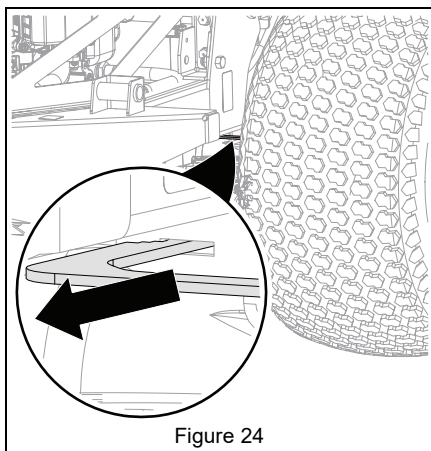

Figure 24
2. Pull both transaxle bypass levers out into bypass position. See Figure 24.